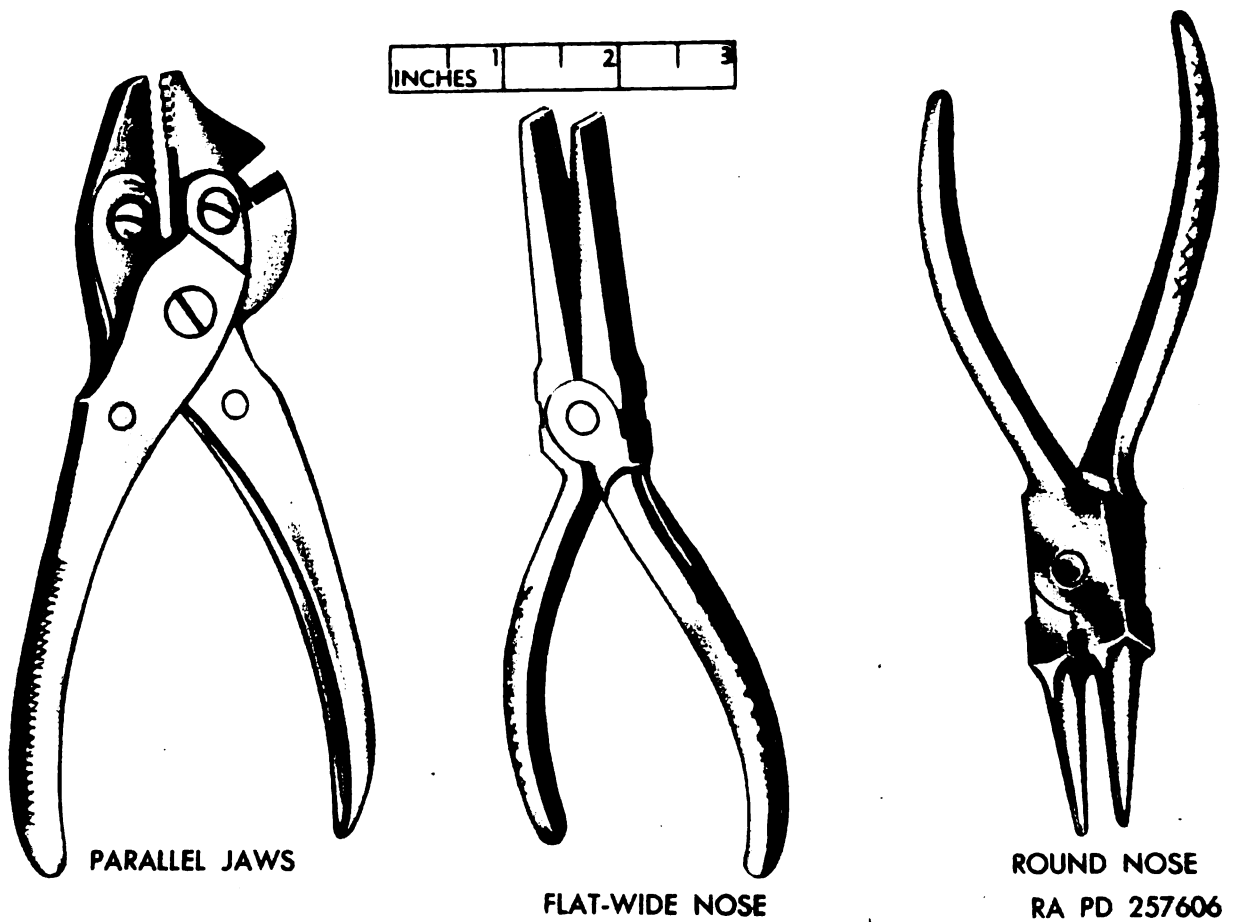

Figure 136. Parallel jaws, flat, and round nose pliers.
d. *Parallel Jaws, Flat, and Round Nose Pliers.* These pliers (fig. 136) are used to bend or form metal into various shapes and to work